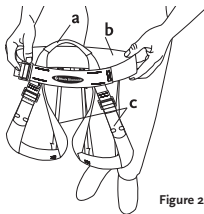

Figure 2
1. Holding the harness with the tie in point (a) directly in front of you, step through the waistbelt (b) and into the leg loops (c) and pull them up (figure 2).